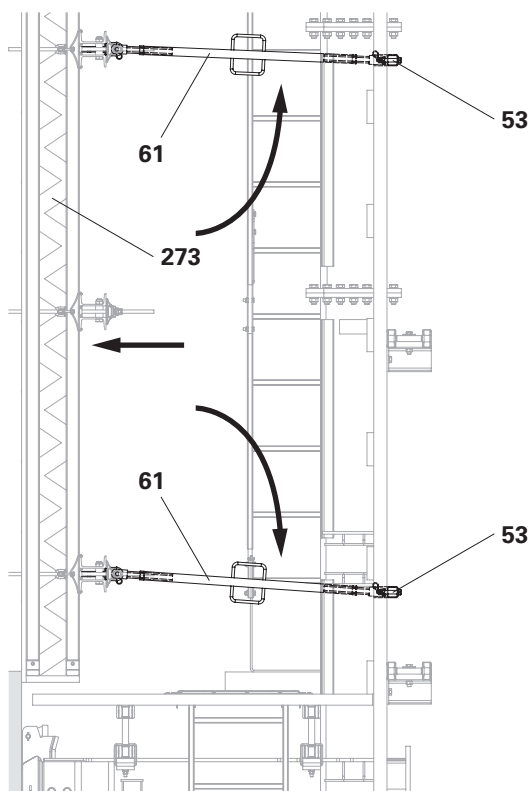

Fig. C5.02
1. Move the formwork unit (273) forwards.
2. Bolt the Kicker Brace AV 140 (61) to the Connection AV ACS (53).
3. Align the formwork unit with Kicker Brace AV 140 (61) vertically.
- (Fig. C5.02)